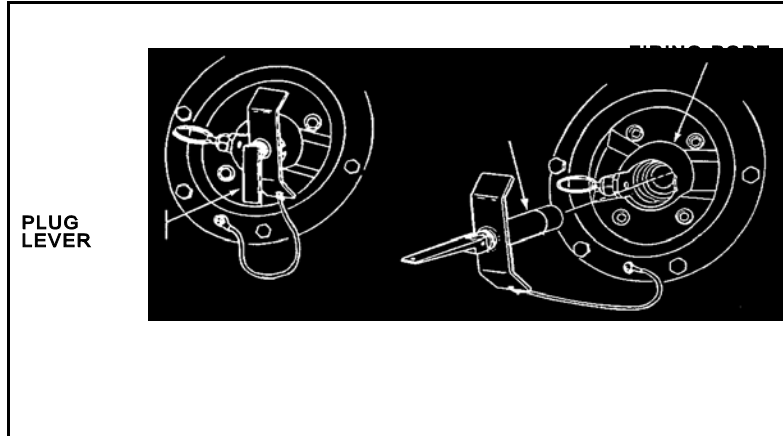

Figure 2. Firing port plug lever.
2. Remove the firing port plug. Pull up on the firing port plug lever to unlock and pull out the plug (Figure 2).